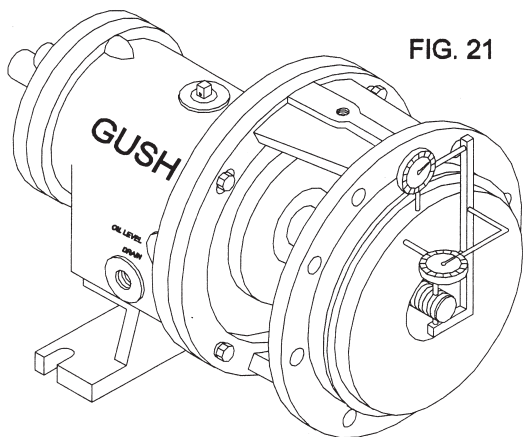

FIG. 21
7. Install oil seal (15) in bearing frame.
8. Install stem plate (23) to stem (18).
9. Check stem plate. Rotate shaft one turn, if reading varies more than .005 in. determine cause and correct before continuing. (Fig. 21)